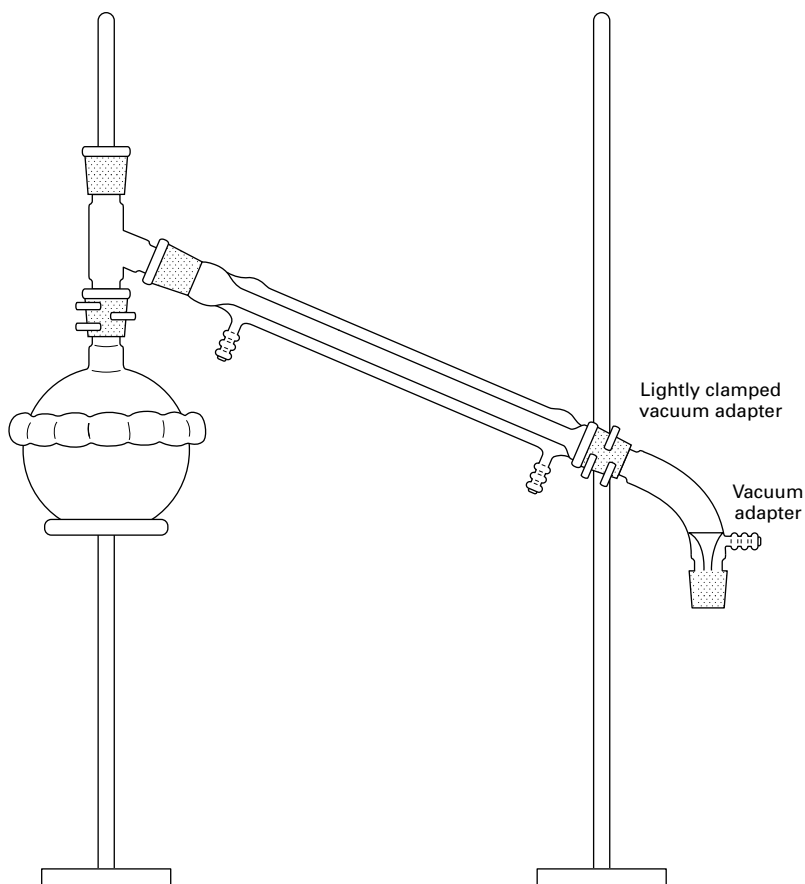

FIGURE 18.7 Correctly clamping the vacuum adapter.
7. Put a vacuum adapter on the end of your condenser, and hold it there. Put the top of the condenser (outer joint) onto the three-way adapter, and get the vacuum adapter joint cradled in the clamp you've set for it. Push the condenser/vacuum adapter toward the three-way adapter; lightly tighten the clamp on the vacuum adapter. The clamp *must* stop the vacuum adapter from *slipping off the condenser* (Fig. 18.7).